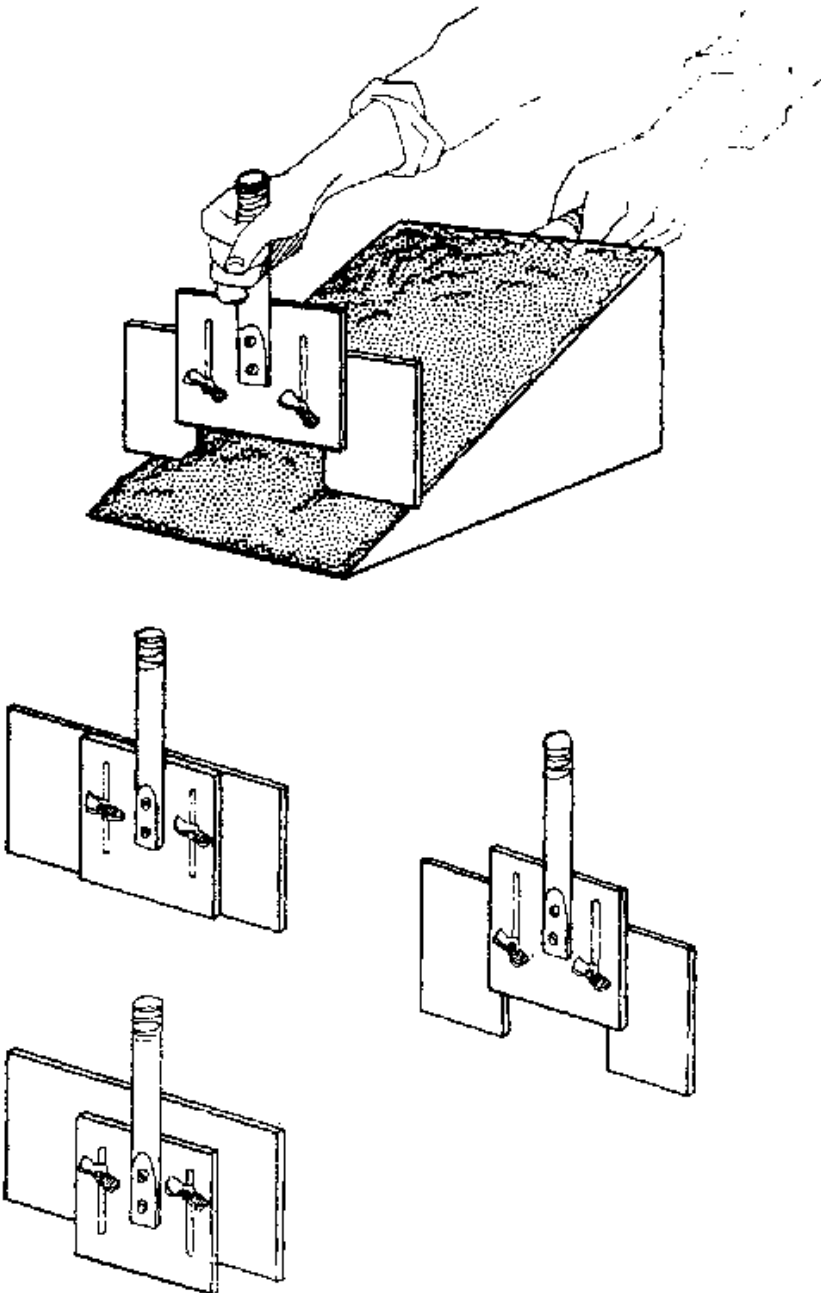

Figure 53.
*PLACING SOIL MIX IN MACHINE* - With most of the block-making machines (particularly with CINVA-Ram) it is necessary to get the correct amount of soil mix in the machine each time. Fast, simple weighing equipment can be used, but a wood or metal scoop will do almost as well. A scoop for the CINVA-Ram is shown in Figure 53. A worker can scoop into a loose pile of prepared soil mix, scrape off the excess material with a piece of straight wood or sheet metal, and then dump this measured amount directly into the machine. The size of the scoop is determined by the correct amount of mix to make a dense block. Another way is to use only one size scoop but use an adjustable scraper as shown in Figure 53.